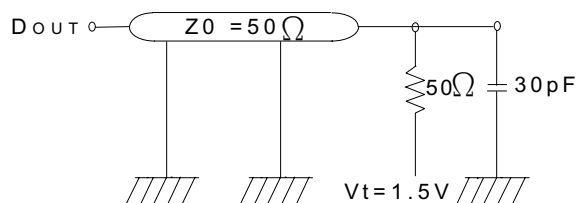

Fig.1 OUTPUT LOAD EQUIVALENT
Output load	See Figures 1 and 2
5. Test conditions as specified with the output loading as shown in Fig. 1 unless otherwise noted.
13. Capacitance derating applies to capacitance different from the load capacitance shown in Fig. 1.